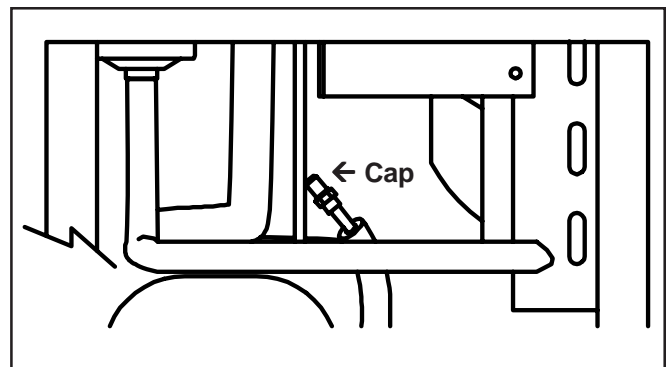

Figure 34. Remove Cap
2. Remove the cap from the Schrader valve on the compressor (Fig. 34).